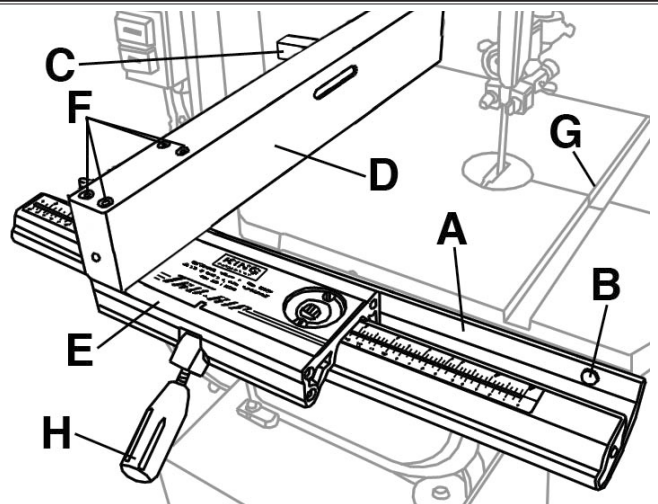

Figure 1
- 1) Assemble the fixed base (A) Fig.1 to the cast iron table using 2 hex. bolts and spring washers (B).
- 2) Assemble the rear square tube (C) to the rear of table using 2 cap screws.
- 3) Assemble the fence (D) to the fence body (E) using 4 cap screws (F). Make sure the fence sleeves (#253) are positioned in the fence first. Place the fence assembly on the fixed base and rear square tube, slide the fence on its guides until it is the required distance from the blade.
- 4) Check the scale, make sure the distance between the edge of the miter slot (G) and both the front and rear of the rip fence are the same distance, adjust the fence position with the 4 cap screws (F) so both distances are equal.
- 5) Lock the fence by pushing down on the locking handle (H).